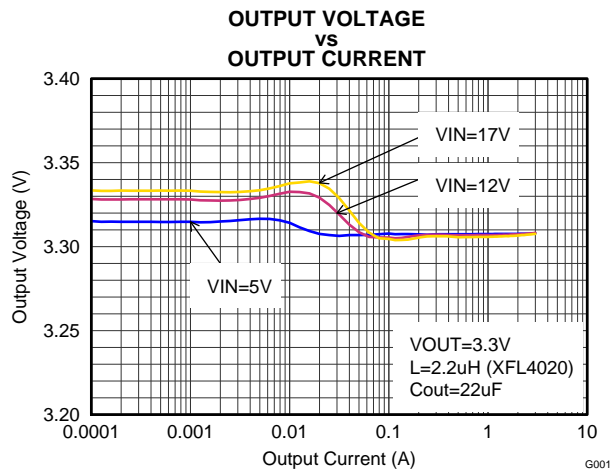
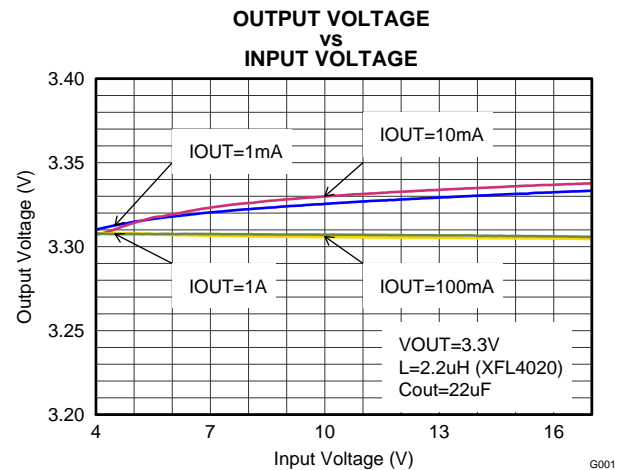

Figure 17. Output Voltage Accuracy (Load Regulation)
Figure 18. Output Voltage Accuracy (Line Regulation)
(4) This is the voltage regulated at the FB pin.
(5) This is the accuracy provided by the device itself (line and load regulation effects are not included). For the fixed voltage versions the (internal) resistive divider is included.
(6) Line and load regulation depend on external component selection and layout (see Figure 17 and Figure 18).